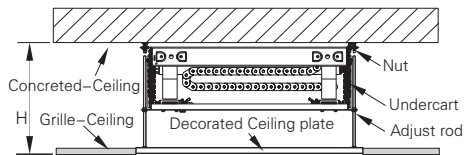

Figure 3 Standard ceiling installation
A. If $H < H1$ (Supposed it's Maximum H2), can install project lift on the Concreted–Ceiling directly. Check Figure 3.